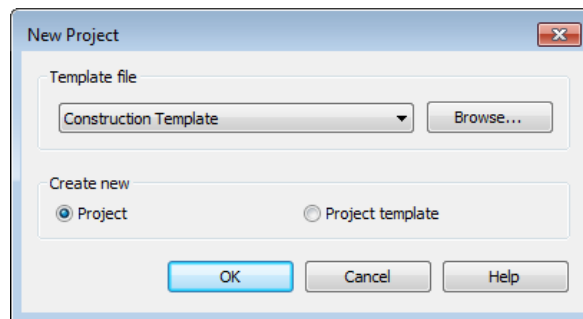

Figure 2-27 The *New Project* dialog box
- b. Use **Systems-Default** (Imperial) or **Systems-Default_Metric** (Metric) as the template file for the project, refer to Figure 2-27.
1. Choose **New > Project** from the **File** menu; the **New Project** dialog box is displayed, as shown in Figure 2-27.